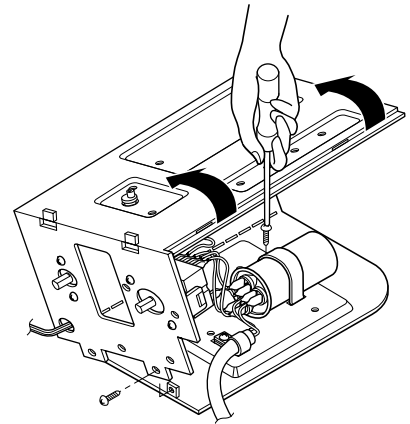

Figure 11
4. Remove a screw and unfold the control box. (See figure 11)
5. Remove the screw and the clamp which fastens the capacitor. (See figure 11)